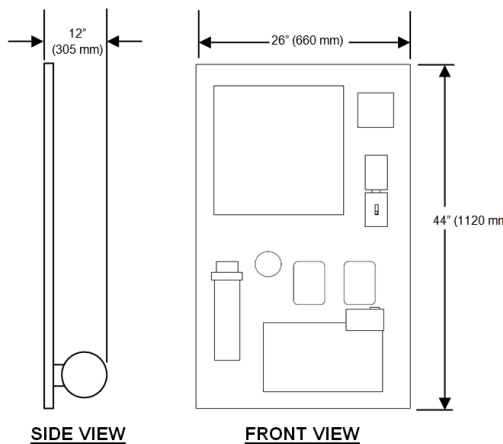

Figure 8 – Dimensions – **STANDPIPE-PAC™** Unit
3.3.1. Mounting. See Figure 8. Mount the **STANDPIPE-PAC™** in the chosen mounting location.